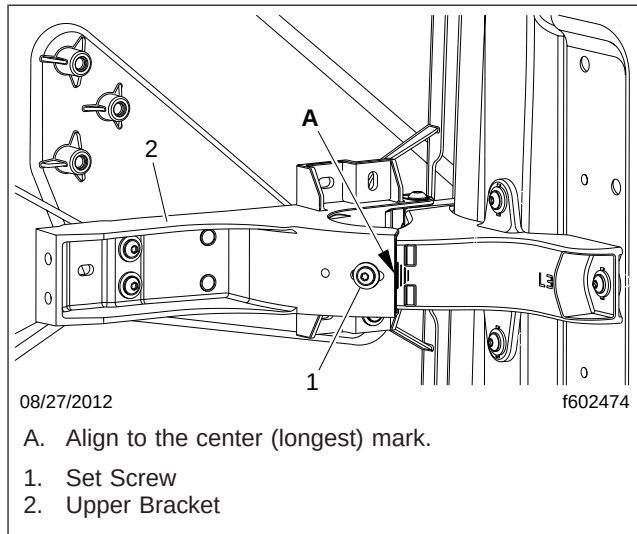

Fig. 3, Side Extender Adjustment
8. Ensure that the set screws on all three brackets are loose, then adjust the angle of the side extender so that the adjustment feature on the upper bracket is set to the middle (longest) mark; see Fig. 3. Tighten all set screws 70 lbf·in (800 N·cm).